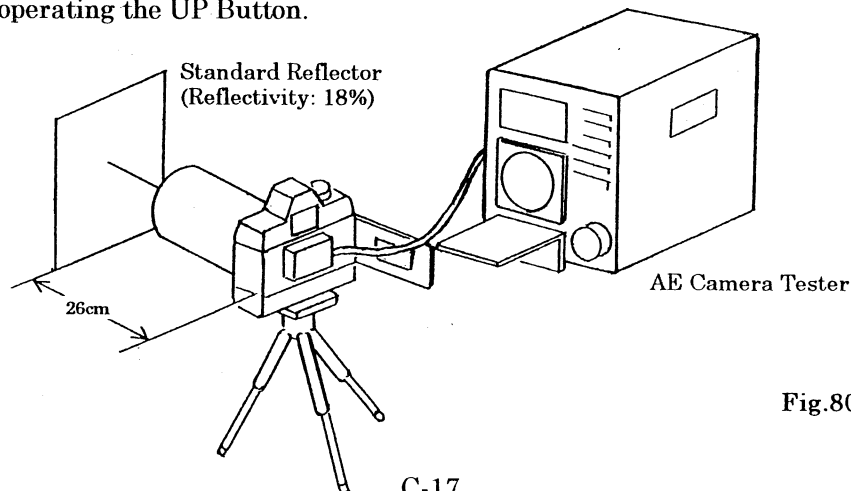

Fig.80
- Since there is no difference in the adjustment procedure between the 3-xenon-tube firing time adjustment and the 2-xenon-tube firing time adjustment, the adjustment procedure for the 2-xenon-tube firing time will be described only with the selection items (7) ~ (6).
- As shown in Fig. 80, set the camera (film plane) at 26 cm from the Reflector. Focus the Lens of the camera by turning the focus ring of the Lens Barrel and lock the focus ring with the lock screw and then start measuring.